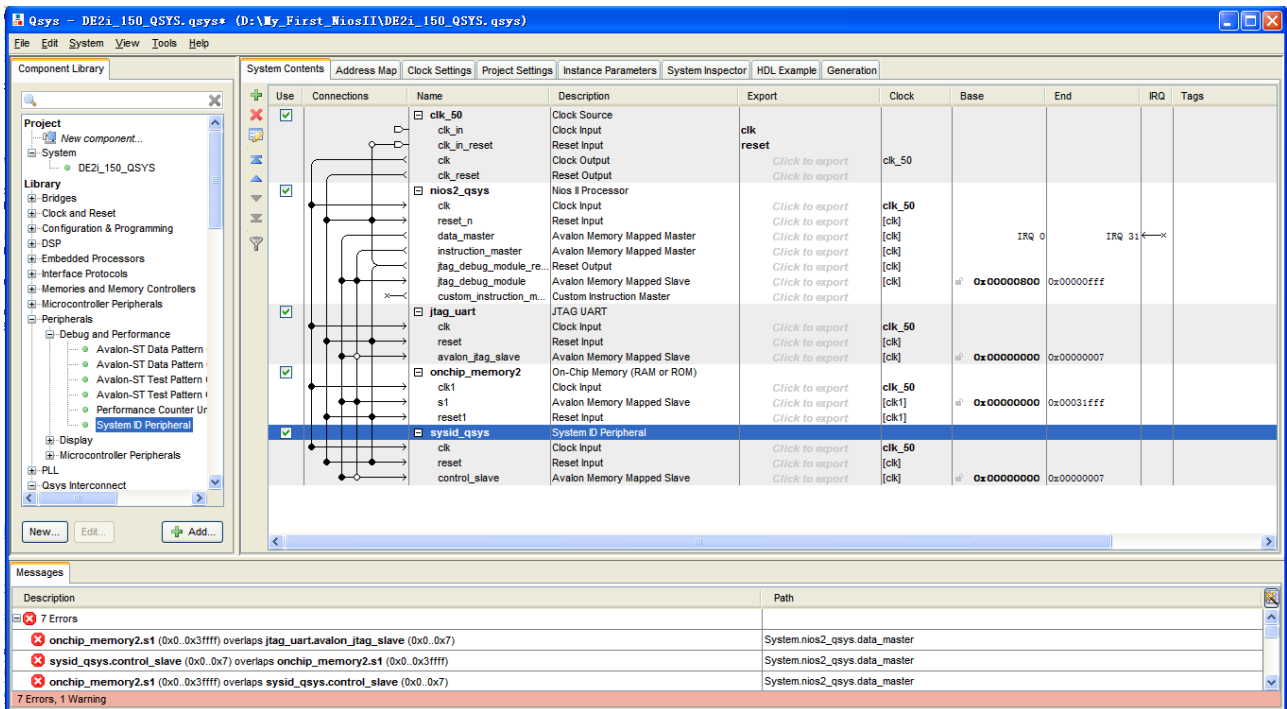

Figure 1-36 Add System ID [2]
22. Click **Finish** to close System ID Peripheral box and return to the window, rename **sysid\_qsys\_0** to **sysid\_qsys** and connect the **clk** and **clk\_reset** and **data\_master** as shown in Figure 1-36.